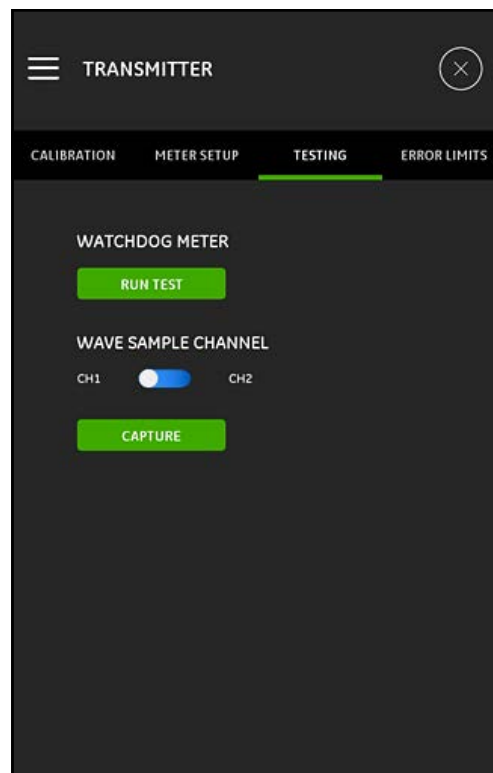

Figure 142: The TESTING Menu
The TESTING menu (see *Figure 142* below) is used to ensure that the PT900 is performing properly. The following tests are included:
1. Click the RUN TEST button in the TESTING menu (see *Figure 142 on page 104*).